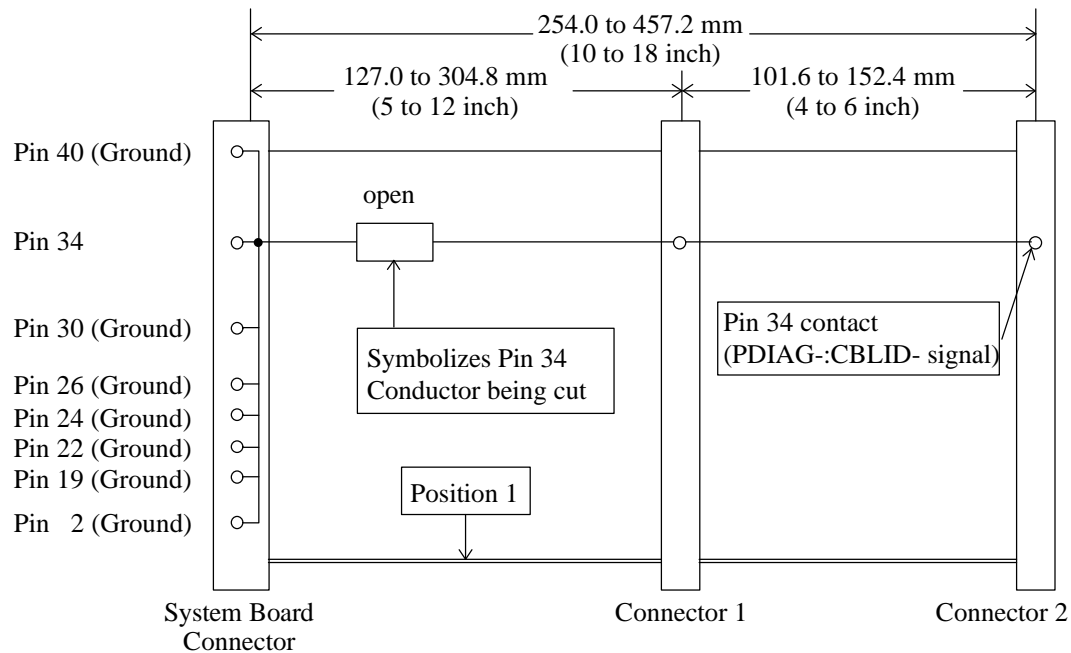

Figure 3.10 Cable configuration
- 4) The dimensions are shown in Figure 3.10.